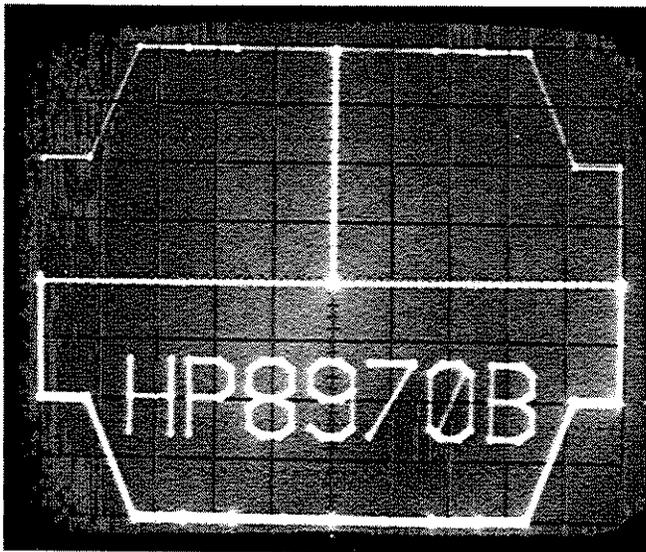

Figure 3-12. Test Pattern on Oscilloscope
5. On the Noise Figure Meter, press 7.1 SPECIAL FUNCTION. Verify that a test pattern is seen on the display. It may be necessary to adjust rear panel GAIN TRACE control to obtain the test pattern. The test pattern should be 6 ± 0.5 volts vertically and horizontally. Adjust the display until the test pattern fills the grid area (see Figure 3-12). Press 7.0 SPECIAL FUNCTION to enable the Noise Figure Meter to output the noise figure and gain data to the display.